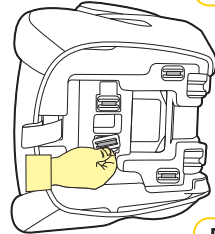

Figure 3
Step 3: Engage and disengage the Harness Tongues and Buckles several times until a strong audible “CLICK” is heard when inserting the last tongue (refer Figure 3).
- Step 4:** To release the buckle / crotch strap pass the three bar slides attached through the crotch slot holes in seat section (see Figure 3).
- Step 1:** Connect the buckle/crotch strap by feeding the three bar slides on the crotch strap through the holes in seat section (see Figure 3).
- Step 4:** To attach shoulder pads, slide the shoulder pad over the harness straps (refer Figure 3).